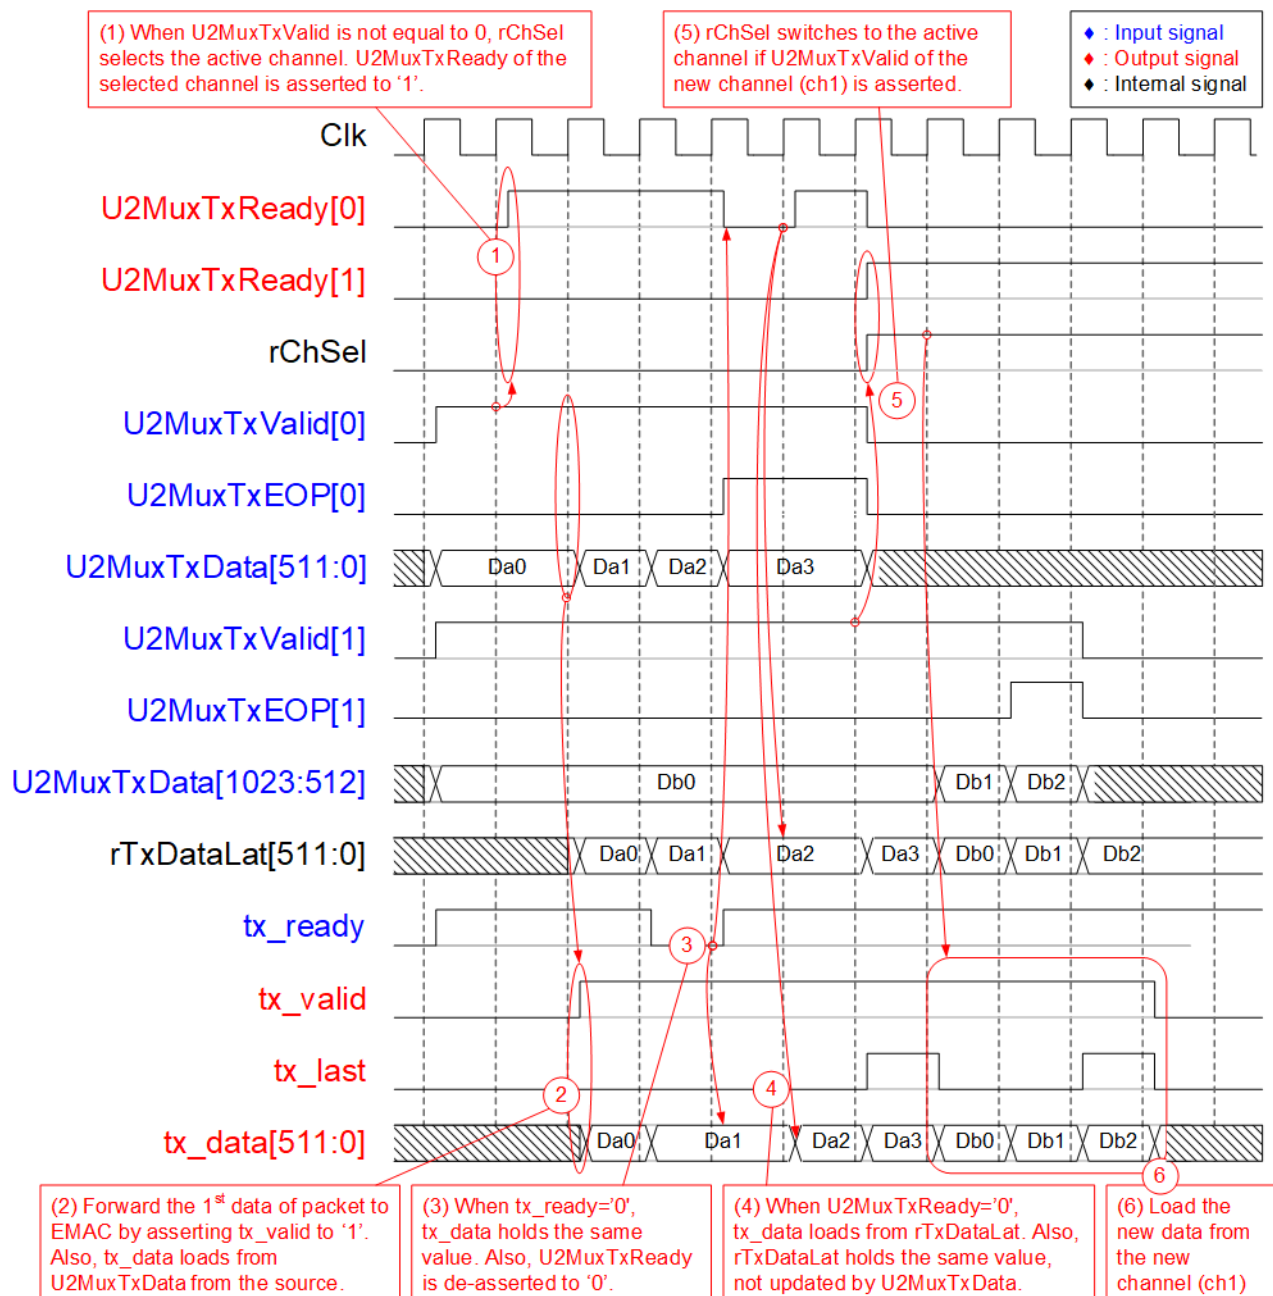

Figure 2-5 TxEMacMux2to1 timing diagram
This module is data switch to select transmitted data from two sources to forward to EMAC. rChSel is the control signal to select the active channel. When two channels are requested in Idle condition, the same channel is selected. After finishing the current channel transferring, rChSel changes the value to transfer the data from another channel. More details are shown in Figure 2-5.
1. When two user sends the new packet by asserting U2MuxTxValid to '1' at the same time and now the module is in Idle condition, rChSel (the signal to indicate the active channel) does not change the value to forward the data from the same channel to EMAC. In Figure 2-5, the Ch#0 is selected, so U2MuxTxReady of the selected channel (Ch#0) is asserted to '1' to accept the first data.
5. After accepting the final data of a packet from the active channel, the next active channel is scanned. If U2MuxTxValid of another channel is asserted, rChSel will switch the value. In Figure 2-5, the next active channel is Ch#1 (rChSel='1') to accept the data from Ch#1.